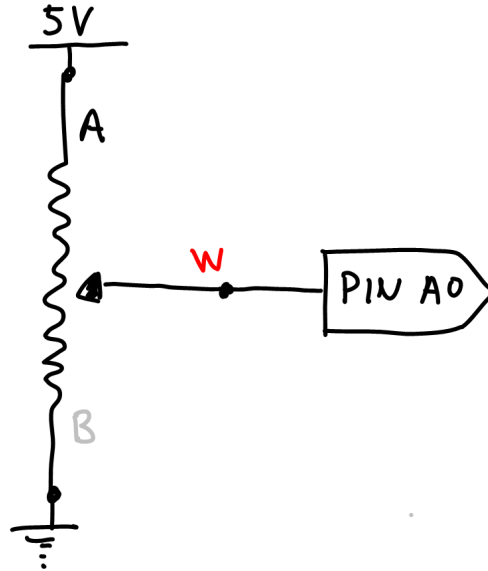

Figure 7: Circuit for exploring the Uno's ADC.
- **Disconnect the Analog Discovery from the circuit entirely** and build the circuit shown in Figure 7. Note that the Uno will be providing power to the circuit from the 5V pin.